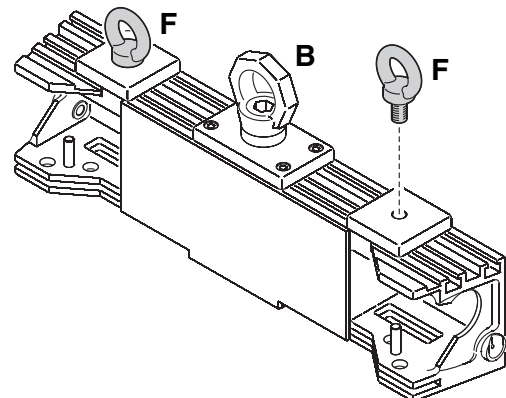

Figure 4: Additional eyebolts
1. See Figure 4. Obtain M12 threaded eyebolts **F** (not supplied) that are approved as a suspension point for the total weight they will have to support. Fasten two eyebolts securely into the threaded holes in each Header as illustrated and use these as suspension points for the Header.